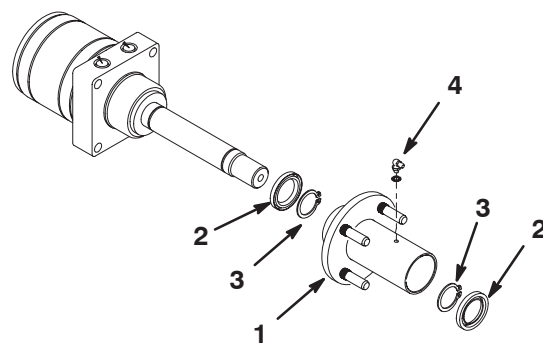

Figure 2
7. Remove the grease seal and snap ring from the long end of the hub (Fig. 2).
8. Remove the snap ring and grease seal from the other end of the shaft and remove the hub from the shaft (Fig. 2).
9. Grease inner edge of the new grease seals with No. 2 multipurpose lithium base grease. Slide one seal onto motor shaft past groove closest to the motor. Install snap ring into groove (Fig. 2).